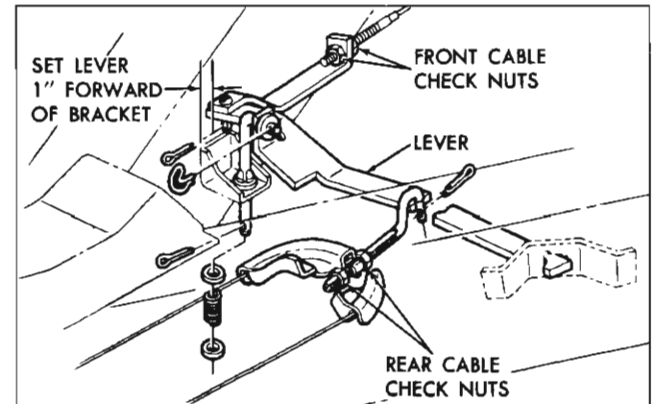

Fig. 5—Parking Brake Idler Lever
3. Adjust front cable to position idler lever to $1'' \pm \frac{1}{4}''$ forward of rear edge of bracket (fig. 5).